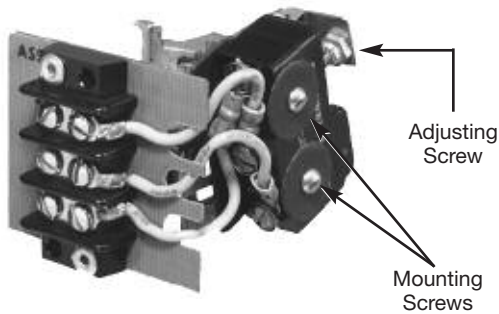

Figure 8
3. Remove two mounting screws holding existing switch, refer to Figure 8.
- c. If switch actuation is not correct, change adjustment of actuating screw using a $\frac{1}{16}$ " hexagon key wrench, refer to Figure 8.